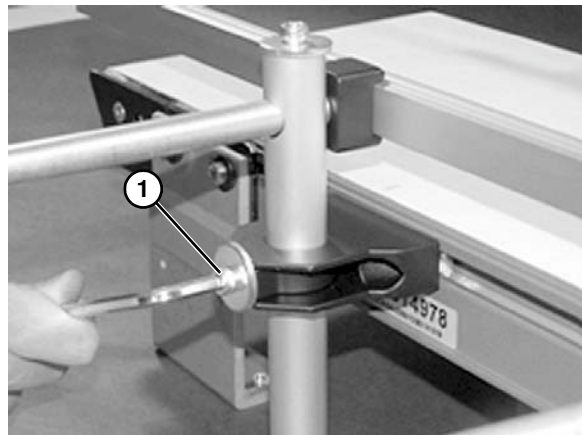

Figure 29
7. Adjust rail height with lower screw (**Figure 29, item 1**).